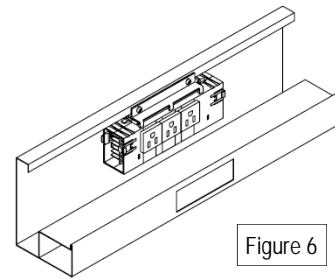

Figure 6
- A multi-circuit "J" Channel as shown in Figure 6.